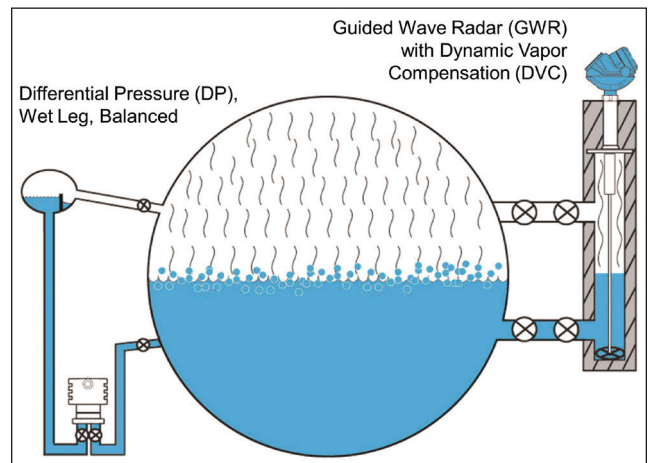

Figure 3. Drum level measurement redundancy is best achieved by using different instruments such as both DP and GWR.
Redundant drum level measurements are recommended for safety and reliability, and because a steam drum can be uneven because of irregular heating over time, redundantly measuring on the front and back is often preferred. Another best practice is to use different measurement technologies for measurement redundancy. Figure 3 depicts one way to obtain measurement redundancy by combining differential pressure (DP) and guided wave radar (GWR) level technologies.